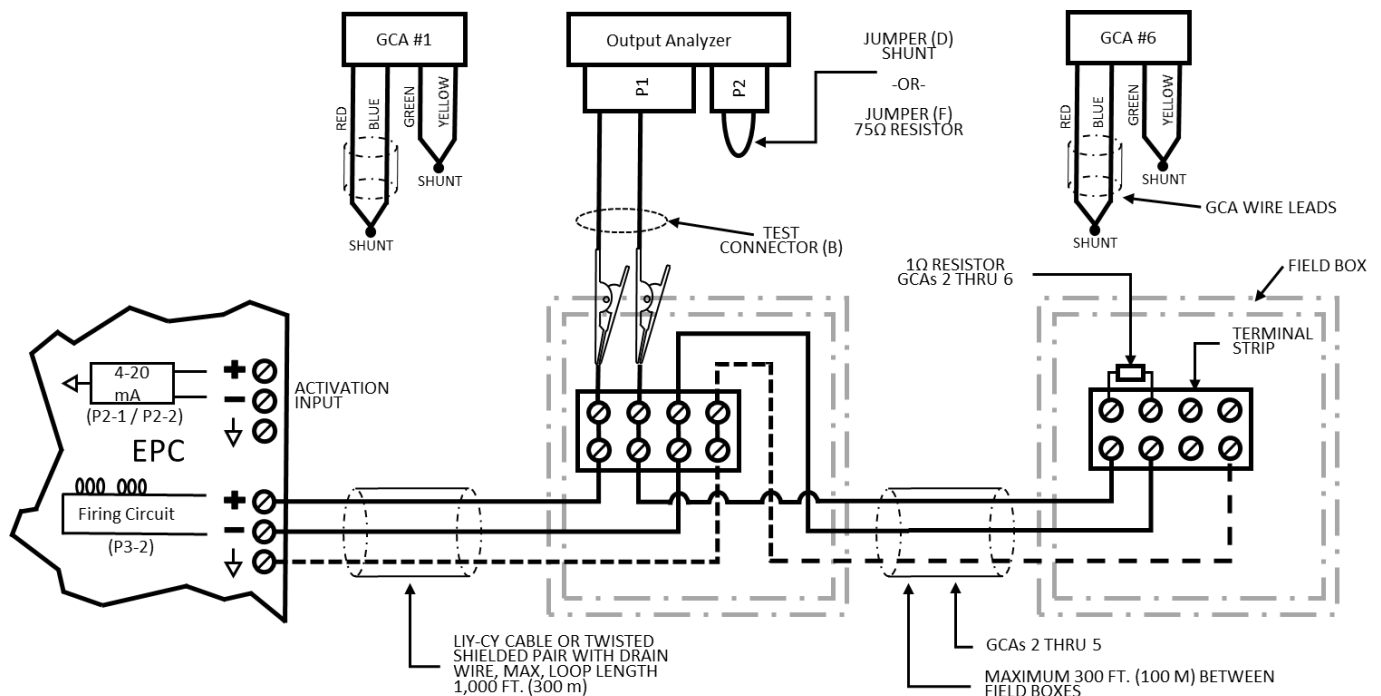

Figure 5 - Field Wiring Activation Current Test
5. Use the 14-inch long leads and alligator clips (supplied with the Analyzer) to connect the EPC output terminals to the GCA firing circuit on the first field box to be tested, as shown in Figure 5 below.
6. Connect the 0Ω shunt to the Analyzer, as shown in Figure 5 above.
- Connect the alligator leads to the Analyzer and field box terminals, as shown in Figure 5.